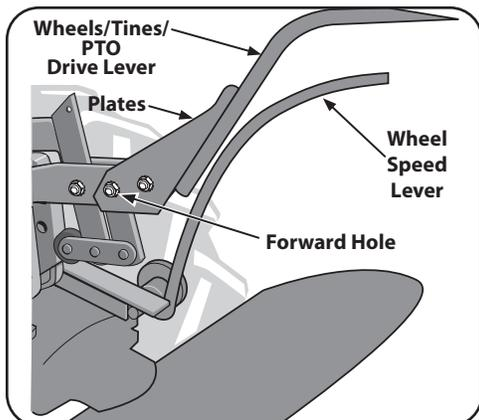

Figure 3-7
3. Slide the plates at the end of the Wheels/Tines/PTO Drive Lever over the yoke plates. See Figure 3-7. To aid in the next step, insert a screw temporarily into the forward-most holes of the yoke plates and the lever.